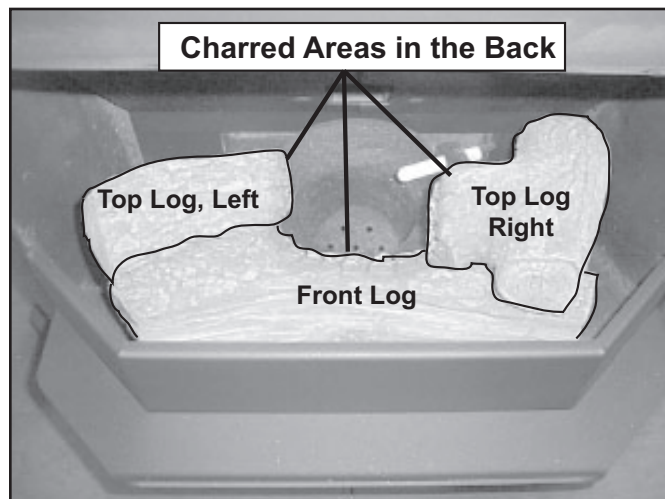

Figure 21.2
2. Set the left and right logs onto the front log, placing the holes in the base of the left and right logs over the locating pins in front log. See **Figure 21.2**. Ensure that the charred ends are facing the firepot.